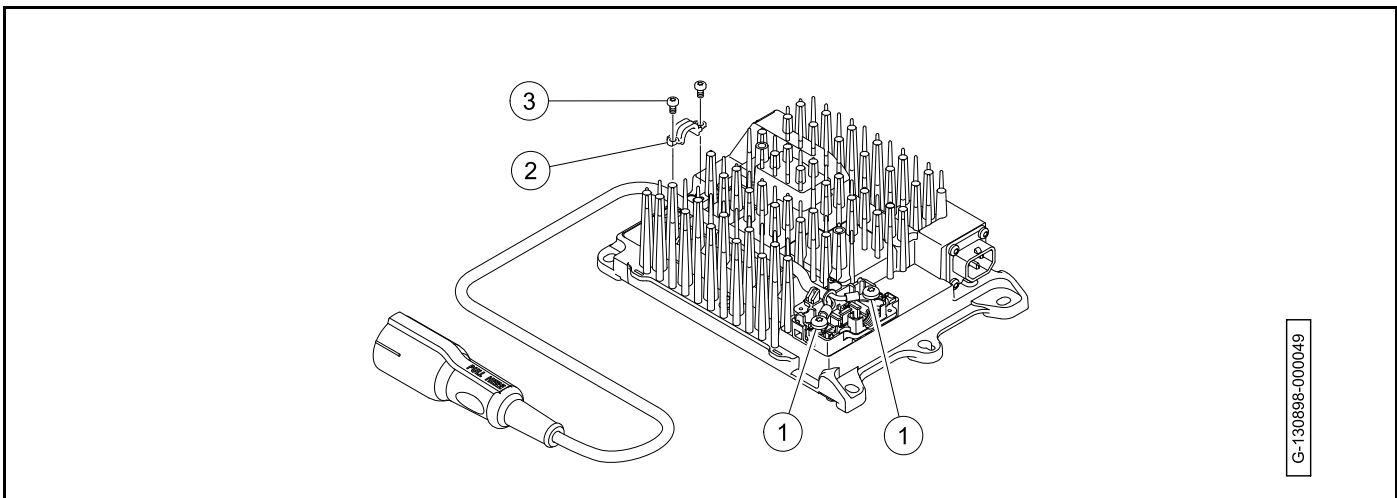

Figure 15-20 Clamp Installation
2. Attach the black and green DC cord wires to the negative (-) terminal (6).
3. Tighten the screws (1) to 39.8 lb·in (4.5 N·m) (**Figure 15-20, Page 15-34**).